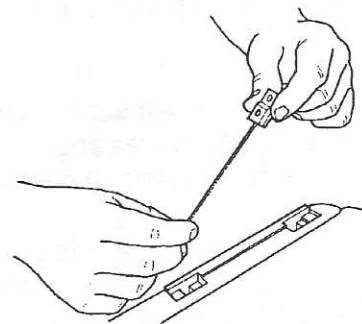

Fig.7
6. Lift the mounting block and blade assembly and place it "socket head screw down" into the left (longer) side of the mounting block inset, shown in Fig.7. Make sure to keep the flat side of the blade against the fixture's shoulder.